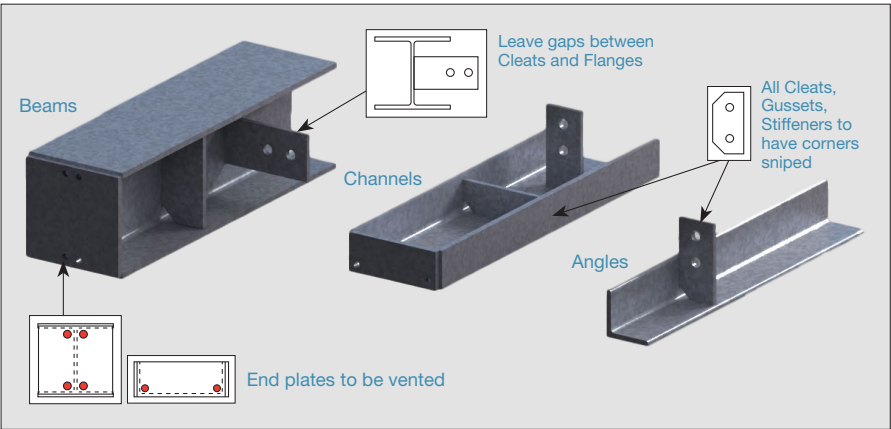
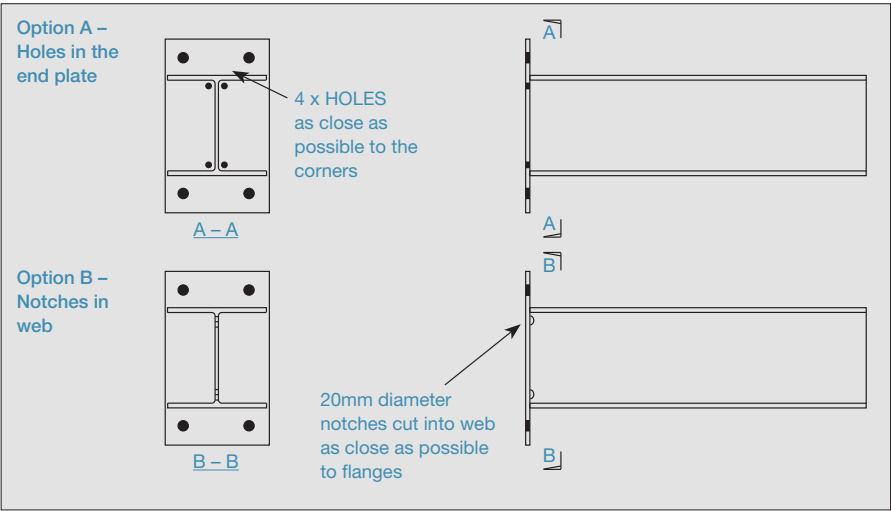

Figure 9: Hot Rolled Profiles – Typical Designs
Figure 10: End Plates Options
- End plates, gussets and stiffeners all restrict drainage. Vent and drain holes or openings (e.g. snipes) need to be provided in the corners of connected structural member (Figure 9 and Figure 10).
- The corners of end plates, gussets and stiffeners can also be cropped (referred to in industry as ‘snipes’) to allow for venting and draining (Figure 9 and Figure 10).